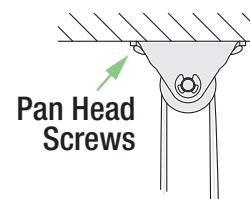

Figure 3
2. Install Draw Cable Pulleys (Fig. 3). Place the pulleys according to specific locations provided by Draper.